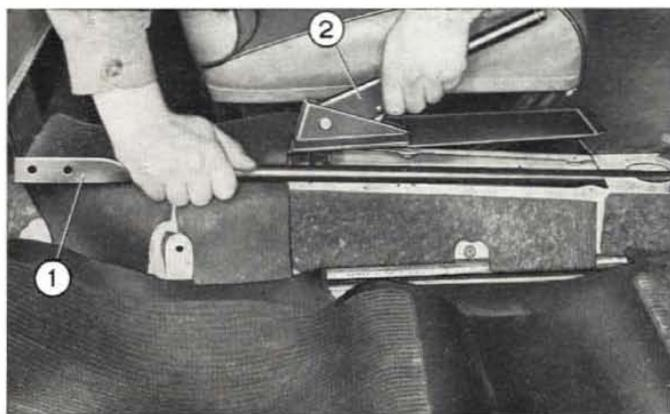

Fig. 208 - Removing selector lever rod.
- raise ratchet lever support and slide off selector lever rod (fig. 208).